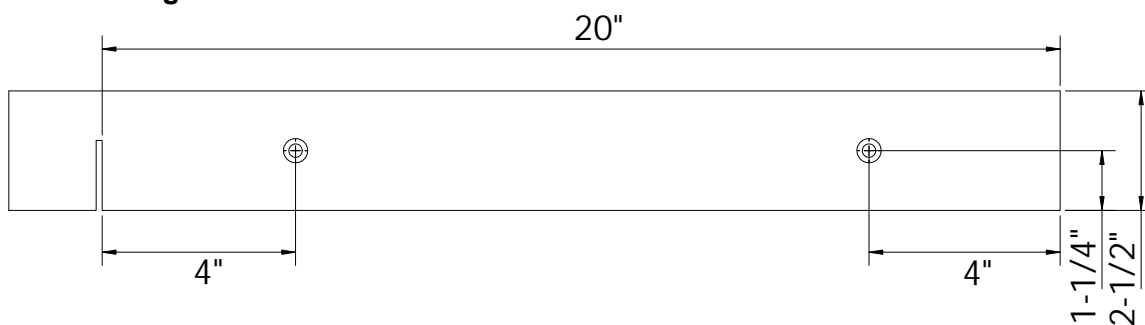

Figure 21
- You will need a $\frac{3}{4}$ " thick piece of stock, cut down to 2-1/2" high and anywhere from 22 - 25" wide. (See **Figure 21**)
- Measure and mark the first hole 4" from the right side of the board and 1-1/4" from the bottom as shown in **Figure 21**.